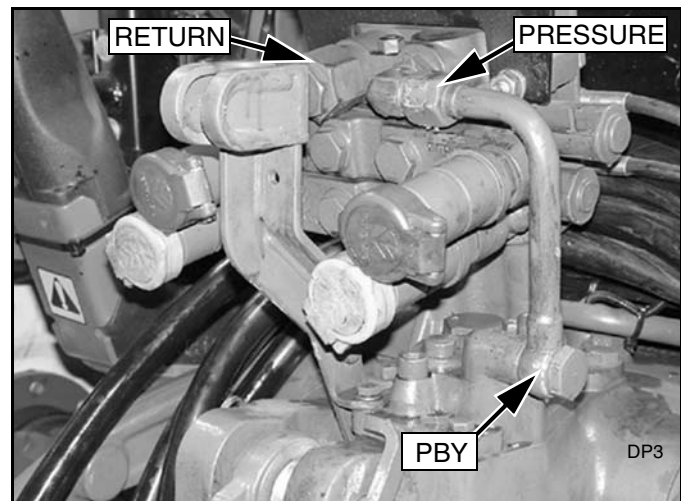

Figure 17. Tractor Hydraulic Connections
1. Locate the hydraulic ports on the rear of the tractor as shown in Figure 17.